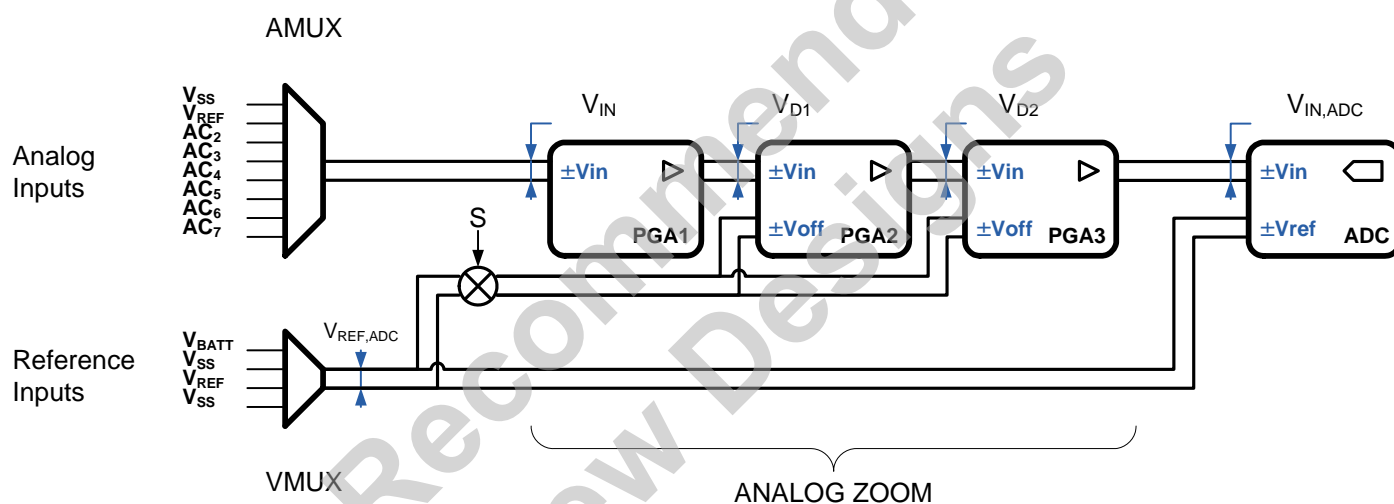

Figure 10. ZADC General Functional Block Diagram
Figure 10, page 18 shows the general block diagram of the acquisition chain (AC). A control block (not shown in **Figure 10**) manages all communications with the I2C peripheral. The clocking is derived from the internal 4 MHz Oscillator.
As seen in Figure 10, page 18, the zooming function is implemented with three programmable gain amplifiers (*PGA*). These are: